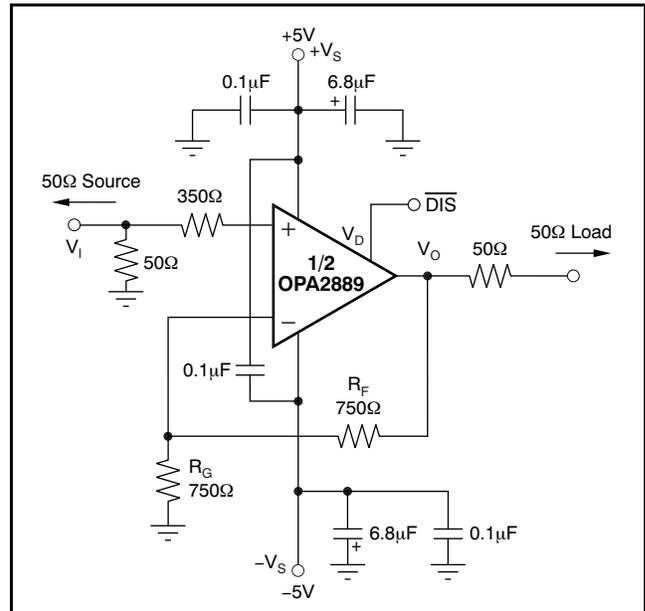
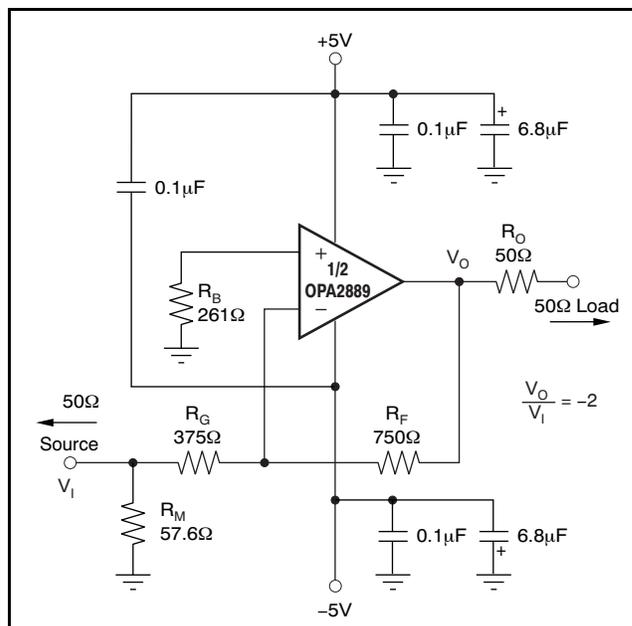

Figure 50. DC-Coupled, G = +2, Bipolar Supply, Specification and Test Circuit
Figure 60. Gain of $-2V/V$ Example Circuit
At $T_A = +25^\circ C$, $G = +2V/V$, $R_F = 750\Omega$, and $R_L = 100\Omega$, unless otherwise noted. See Figure 50.
Figure 50 shows the dc-coupled, gain of +2V/V, dual power-supply circuit configuration used as the basis of the ±5V Electrical Characteristics and ±5V Typical Characteristics. This illustration is for one channel; the other channel is connected similarly. For test purposes, the input impedance is set to 50Ω with a resistor to ground and the output impedance is set to 100Ω. Voltage swings reported in the Electrical Characteristics are taken directly at the input and output pins, while output powers (dBm) are at the matched 50Ω load. For the circuit of Figure 50, the total effective load will be 100Ω || 1.5kΩ. The disable control line (MSOP-10 package only) is typically left open for normal amplifier operation. Two optional components are included in Figure 50. An additional resistor (350Ω) is included in series with the noninverting input. Combined with the 25Ω dc source resistance looking back towards the signal generator, this resistor gives an input bias current cancelling resistance that matches the 375Ω source resistance seen at the inverting input (see the DC Accuracy and Offset Control section). In addition to the usual power-supply decoupling capacitors to ground, a 0.1μF capacitor is included between the two power-supply pins. In practical printed circuit board (PCB) layouts, this optional-added capacitor typically improves the 2nd-harmonic distortion performance by 3dB to 6dB.
A good rule of thumb is to target the parallel combination of R_F and R_G (see Figure 50) to be less than approximately 400 Ω . The combined impedance $R_F \parallel R_G$ interacts with the inverting input capacitance, placing an additional pole in the feedback network and thus, a zero in the forward response. Assuming a 2pF total parasitic on the inverting node, holding $R_F \parallel R_G < 400\Omega$ keeps this pole above 160MHz. By itself, this constraint implies that the feedback resistor R_F can increase to several k Ω at high gains. This increase in resistor size is acceptable as long as the pole formed by R_F and any parasitic capacitance appearing in parallel is kept out of the frequency range of interest.
Voltage-feedback op amps exhibit decreasing closed-loop bandwidth as the signal gain increases. In theory, this relationship is described by the Gain Bandwidth Product (GBP) shown in the Electrical Characteristics. Ideally, dividing GBP by the noninverting signal gain (also called the Noise Gain, or NG) predicts the closed-loop bandwidth. In practice, this principle only holds true when the phase margin approaches 90°, as it does in high gain configurations. At low gains (increased feedback factors), most amplifiers exhibit a more complex response with lower phase margin. The OPA2889 is compensated to give a slightly peaked response in a noninverting gain of 2V/V (see Figure 50). This compensation results in a typical gain of +2V/V bandwidth of 60MHz, far exceeding that predicted by dividing the 75MHz GBP by 2. Increasing the gain causes the phase margin to approach 90° and the bandwidth to more closely approach the predicted value of (GBP/NG). At a gain of +10, the 8MHz bandwidth shown in the Electrical Characteristics agrees closely with that predicted using the simple formula and the typical GBP of 75MHz.
The frequency response in a gain of +2V/V may be modified to achieve exceptional flatness simply by increasing the noise gain to 2.5V/V. One way to modify the response without affecting the +2V/V signal gain, is to add a 750 Ω resistor across the two inputs, as shown in the circuit of Figure 50. A similar technique may be used to reduce peaking in unity-gain (voltage follower) applications. For example, by using a 750 Ω feedback resistor along
The OPA2889 is a general-purpose, wideband, voltage-feedback op amp; therefore, all of the familiar op amp application circuits are available to the designer. Inverting operation is one of the more common requirements and offers several performance benefits. See Figure 60 for a typical inverting configuration where the I/O impedances and signal gain from Figure 50 are retained in an inverting circuit configuration.
In the inverting configuration, three key design considerations must be noted. The first is that the gain resistor (R_G) becomes part of the signal channel input impedance. If input impedance matching is desired (which is beneficial whenever the signal is coupled through a cable, twisted-pair, long PCB trace, or other transmission line conductor), R_G may be set equal to the required termination value and R_F adjusted to give the desired gain. This consideration is the simplest approach and results in optimum bandwidth and noise performance. However, at low inverting gains, the resultant feedback resistor value can present a significant load to the amplifier output. For an inverting gain of $-2V/V$, setting R_G to 50Ω for input matching eliminates the need for R_M but requires a 100Ω feedback resistor. This approach has the interesting advantage that the noise gain becomes equal to $2V/V$ for a 50Ω source impedance—the same as the noninverting circuits considered in Figure 60. The amplifier output, however, now sees the 100Ω feedback resistor in parallel with the external load. In general, the feedback resistor should be limited to the 200Ω to $1.5k\Omega$ range. In this case, it is preferable to increase both the R_F and R_G values (see Figure 60), and then achieve the input matching impedance with a third resistor (R_M) to ground. The total input impedance becomes the parallel combination of R_G and R_M .
The second major consideration, touched on in the previous paragraph, is that the signal source impedance becomes part of the noise gain equation and influences the bandwidth. For the example in Figure 60, the R_M value combined in parallel with the external 50Ω source impedance yields an effective source driving impedance of $50\Omega \parallel 57.6\Omega = 26.7\Omega$. This impedance is added in series with R_G for calculating the noise gain (NG). The resulting NG is $2.86V/V$ for Figure 60, as opposed to only $2V/V$ if R_M could be eliminated as discussed above. Therefore, the bandwidth is slightly lower for the gain of $-2V/V$ circuit of Figure 60 than for the gain of $+2V/V$ circuit of Figure 50.
The third important consideration in inverting amplifier design is setting the bias current cancellation resistor on the noninverting input (R_B). If this resistor is set equal to the total dc resistance looking out of the inverting node, the output dc error, as a result of the input bias currents, is reduced to $(\text{Input Offset Current}) \times R_F$. If the 50Ω source impedance is dc-coupled in Figure 60, the total resistance to ground on the inverting input is 402Ω .
The OPA2889 provides good distortion performance into a 200Ω load on $\pm 5V$ supplies. Relative to alternative solutions, it provides exceptional performance into lighter loads and/or operating on a single +5V supply. Generally, until the fundamental signal reaches very high frequency or power levels, the 2nd-harmonic dominates the distortion with a negligible 3rd-harmonic component. Focusing then on the 2nd-harmonic, increasing the load impedance improves distortion directly. Remember that the total load includes the feedback network; in the noninverting configuration (see Figure 50), this total is the sum of $R_F + R_G$, while in the inverting configuration it is just R_F . Also, providing an additional supply-decoupling capacitor ($0.1\mu F$) between the supply pins (for bipolar operation) improves the 2nd-order distortion slightly (3dB to 6dB). Operating differentially also lowers 2nd-harmonic distortion terms (see the plot on the front page).
Evaluating these two equations for the OPA2889 circuit and component values (see Figure 50) gives a total output spot noise voltage of $18.2\text{nV}/\sqrt{\text{Hz}}$ and a total equivalent input spot noise voltage of $9.1\text{nV}/\sqrt{\text{Hz}}$. This total includes the noise added by the bias current cancellation resistor (350Ω) on the noninverting input. This total input-referred spot noise voltage is slightly higher than the $8\text{nV}/\sqrt{\text{Hz}}$ specification for the op amp voltage noise alone. This result is the case as long as the impedances appearing at each op amp input are limited to the
previously recommend maximum value of 400Ω . Keeping both ($R_F \parallel R_G$) and the noninverting input source impedance less than 400Ω satisfies both noise and frequency response flatness considerations. Because the resistor-induced noise is relatively negligible, additional capacitive decoupling across the bias current cancellation resistor (R_B) for the inverting op amp configuration of Figure 60 is not required.
The balanced input stage of a wideband voltage-feedback op amp allows good output dc accuracy in a wide variety of applications. The power-supply current trim for the OPA2889 gives even tighter control than comparable amplifiers. Although the high-speed input stage does require relatively low $\pm 0.75\mu\text{A}$ input bias current, the close matching between them may be used to reduce the output dc error caused by this current. The total output offset voltage may be reduced by matching the dc source resistances appearing at the two inputs. This matching reduces the output dc error resulting from the input bias currents to the offset current times the feedback resistor. Evaluating the configuration of Figure 50, and using worst-case $+25^\circ\text{C}$ input offset voltage and current specifications, gives a worst-case output offset voltage equal to: